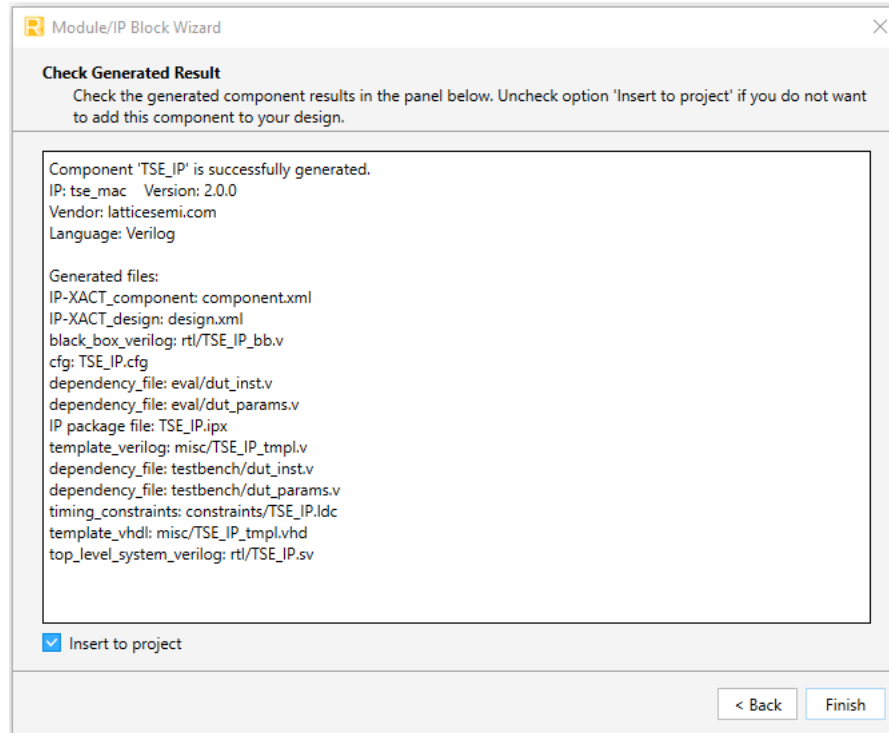

Figure 7.3. Check Generated Result
4. Click **Generate**. The **Check Generating Result** dialog box opens and displays the design block messages and results as shown in Figure 7.3.